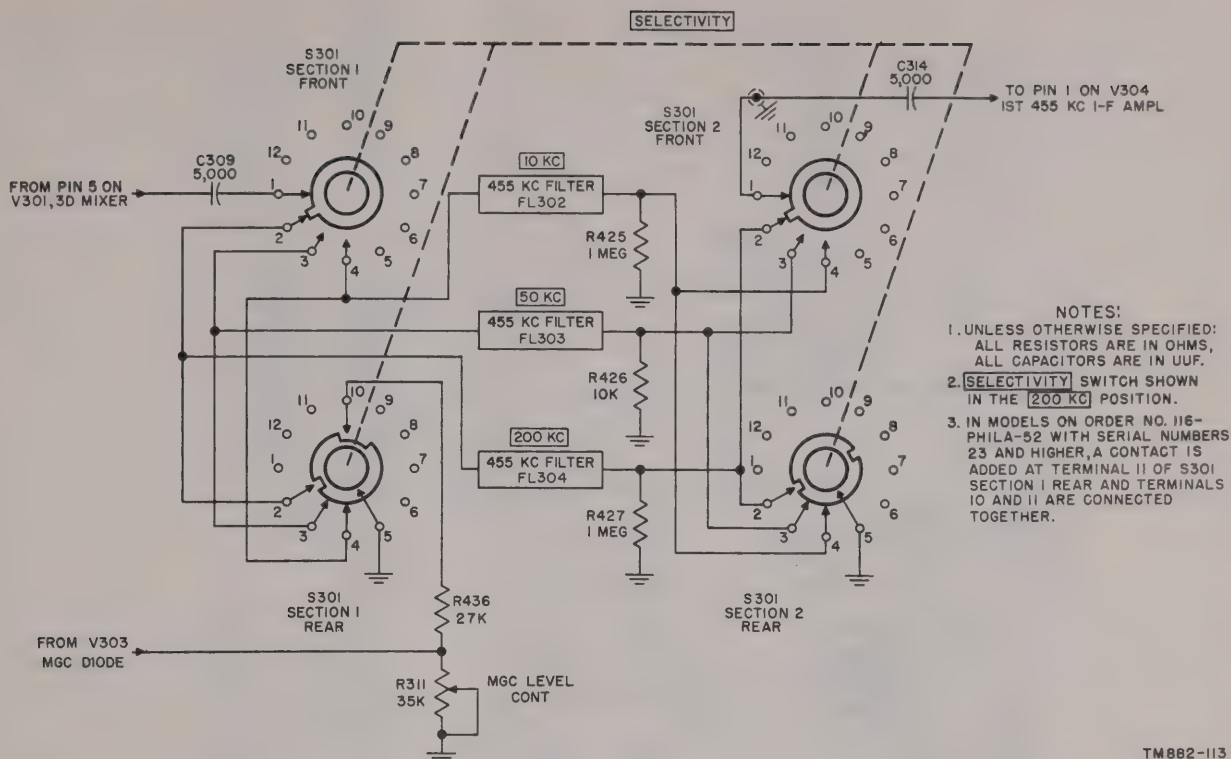

Figure 34. Selectivity filters, 455 kc.
(figs. 34, 35, and 36)
b. Filters, 455 kc (fig. 34). A means of varying the selectivity of the receiver is provided by the 455-kc filters, which consist of three independent filter circuits, FL302, FL303, and FL304, with bandwidths of 10 kc, 50 kc, and 200 kc, respectively. The desired bandwidth of the signal is chosen by front panel SELECTIVITY switch S301, the first section being connected to the filter input and the second section to the output. Section 1, rear, of S301, grounds the input to the filter circuits not in use. The output circuits of the unused filters are grounded by section 2, rear, of S301. The output of each filter is loaded by resistor R425, R426, or R427 and is capacity-coupled by C314 to the grid of first 455-kc if. amplifier V304. When 10-kc filter FL302 is switched into the circuit, R436 is placed in parallel with R311 through section 1, rear, of S301, thereby decreasing the output of mgc diode V303. In this manner, the gain of the receiver is increased to compensate for the greater insertion loss of filter FL302. In units